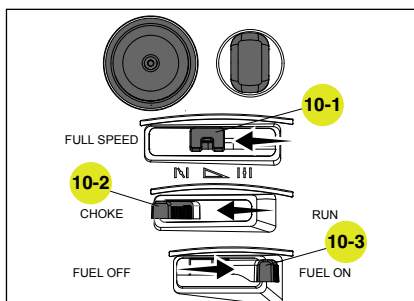

Figure 10
2. To start a cold engine: (Fig. 10).